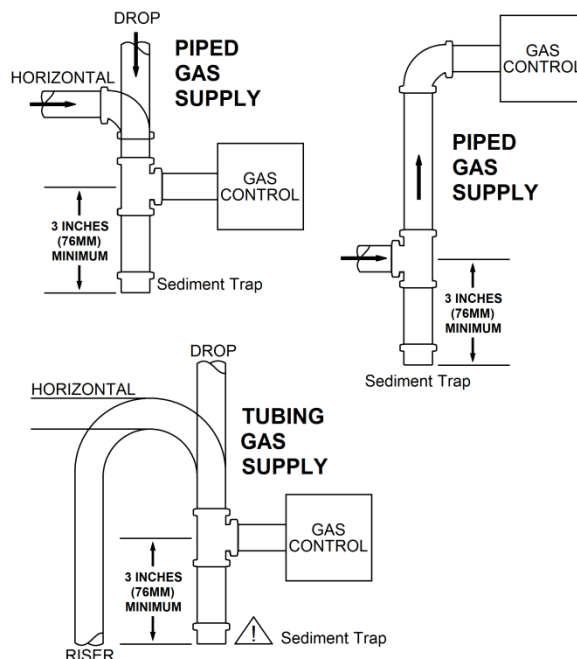

Figure 16 – Sample Gas Supply Sediment Traps
NFPA Code and Hearthstone require the use of a dedicated sediment trap just upstream of the unit. Damage to the valve, or other components due to the lack of a sediment trap are not covered by warranty (see figure 16).
- Install the sediment trap (where required) in the gas supply line to prevent contamination of the gas valve (see figure 16).